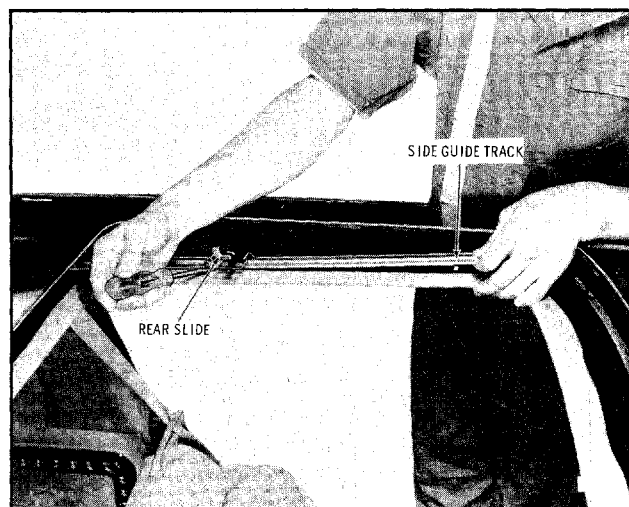

Fig. 8-114-Side Guide Track Removal - C Styles
5. Carefully pry up side guide track from housing (Fig. 8-114).